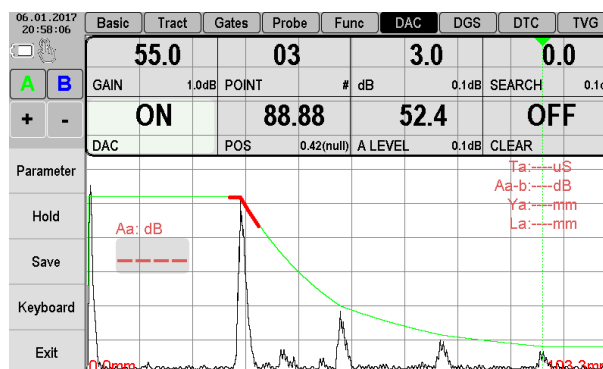

Figure 2.57 – Setting the damping of the third reference point
15. Set damping, that DAC curve comes down to the third reflector peak (Figure 2.57).